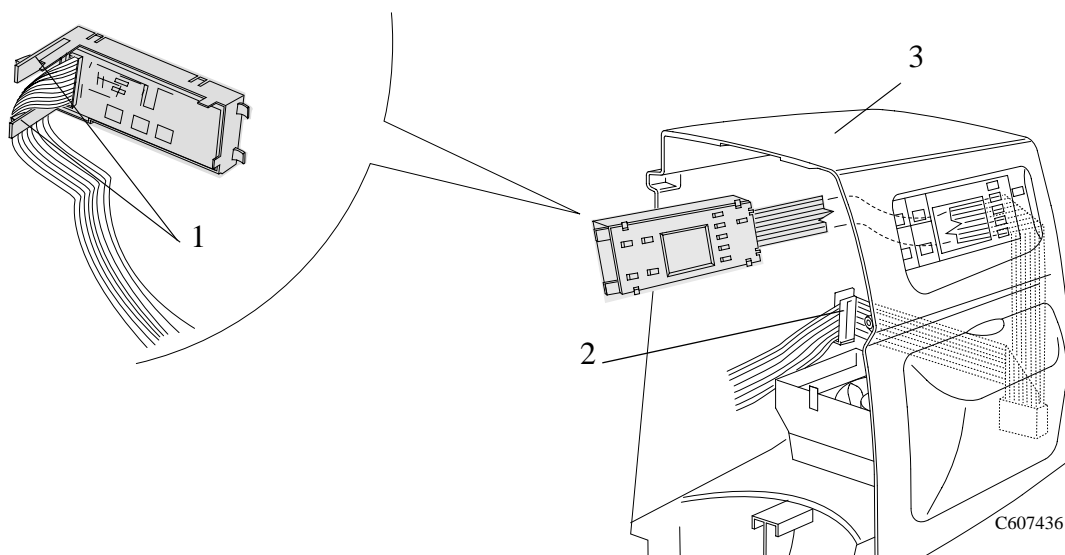

Figure 2: Front Panel
2. The Front Panel Assembly and the Front-Panel Assembly Cable can be removed by releasing them from the retaining clips (item 1) and cable clamps (item 2) inside the Right Hand Cover (item 3) (Refer to Figure 2).